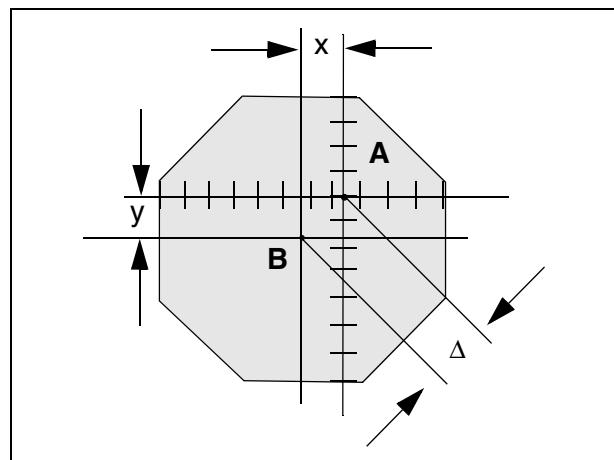

Fig. 5
5. Read the evaluation at the TV Monitor (Fig. 5).